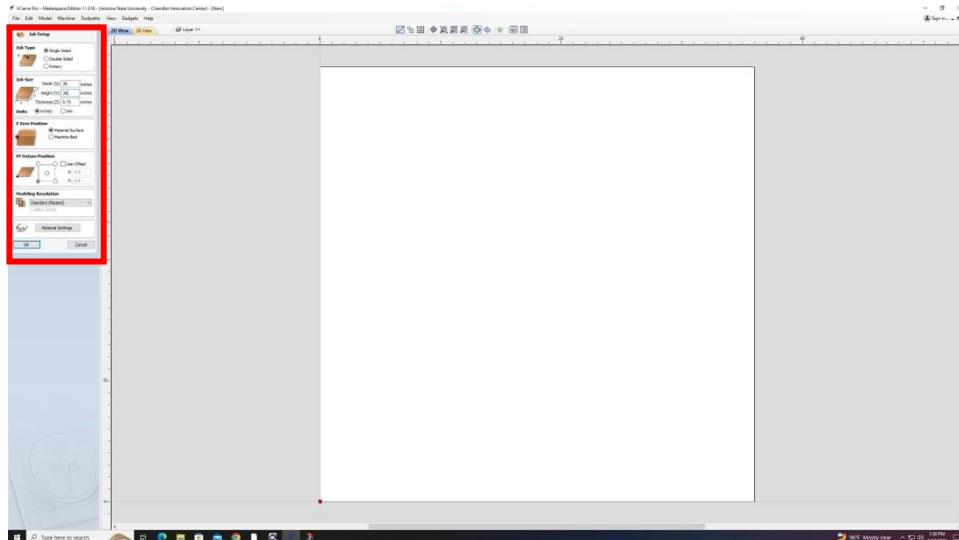

Figure 14: Job Setup settings(in red box)
3. For the Job Setup, set the “Job Size” dimensions to the length, width, and depth of the sheet, which is 36” by 36” by 0.75” respectively(Figure 14).